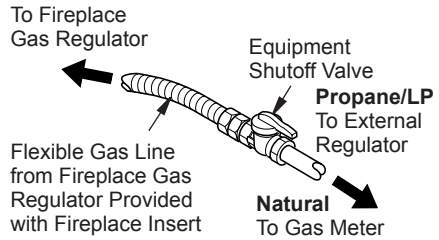

Figure 16 - Attaching Flexible Gas Lines Together
NOTICE: Most building codes do not permit concealed gas connections. A flexible gas line is provided to allow accessibility from the fireplace (see Figure 16). The flexible gas supply line connection to the equipment shutoff valve should be accessible.
- Connect gas supply line to flexible gas line attached to gas regulator of fireplace insert (see Figure 16). Use sealant on all male pipe threads.